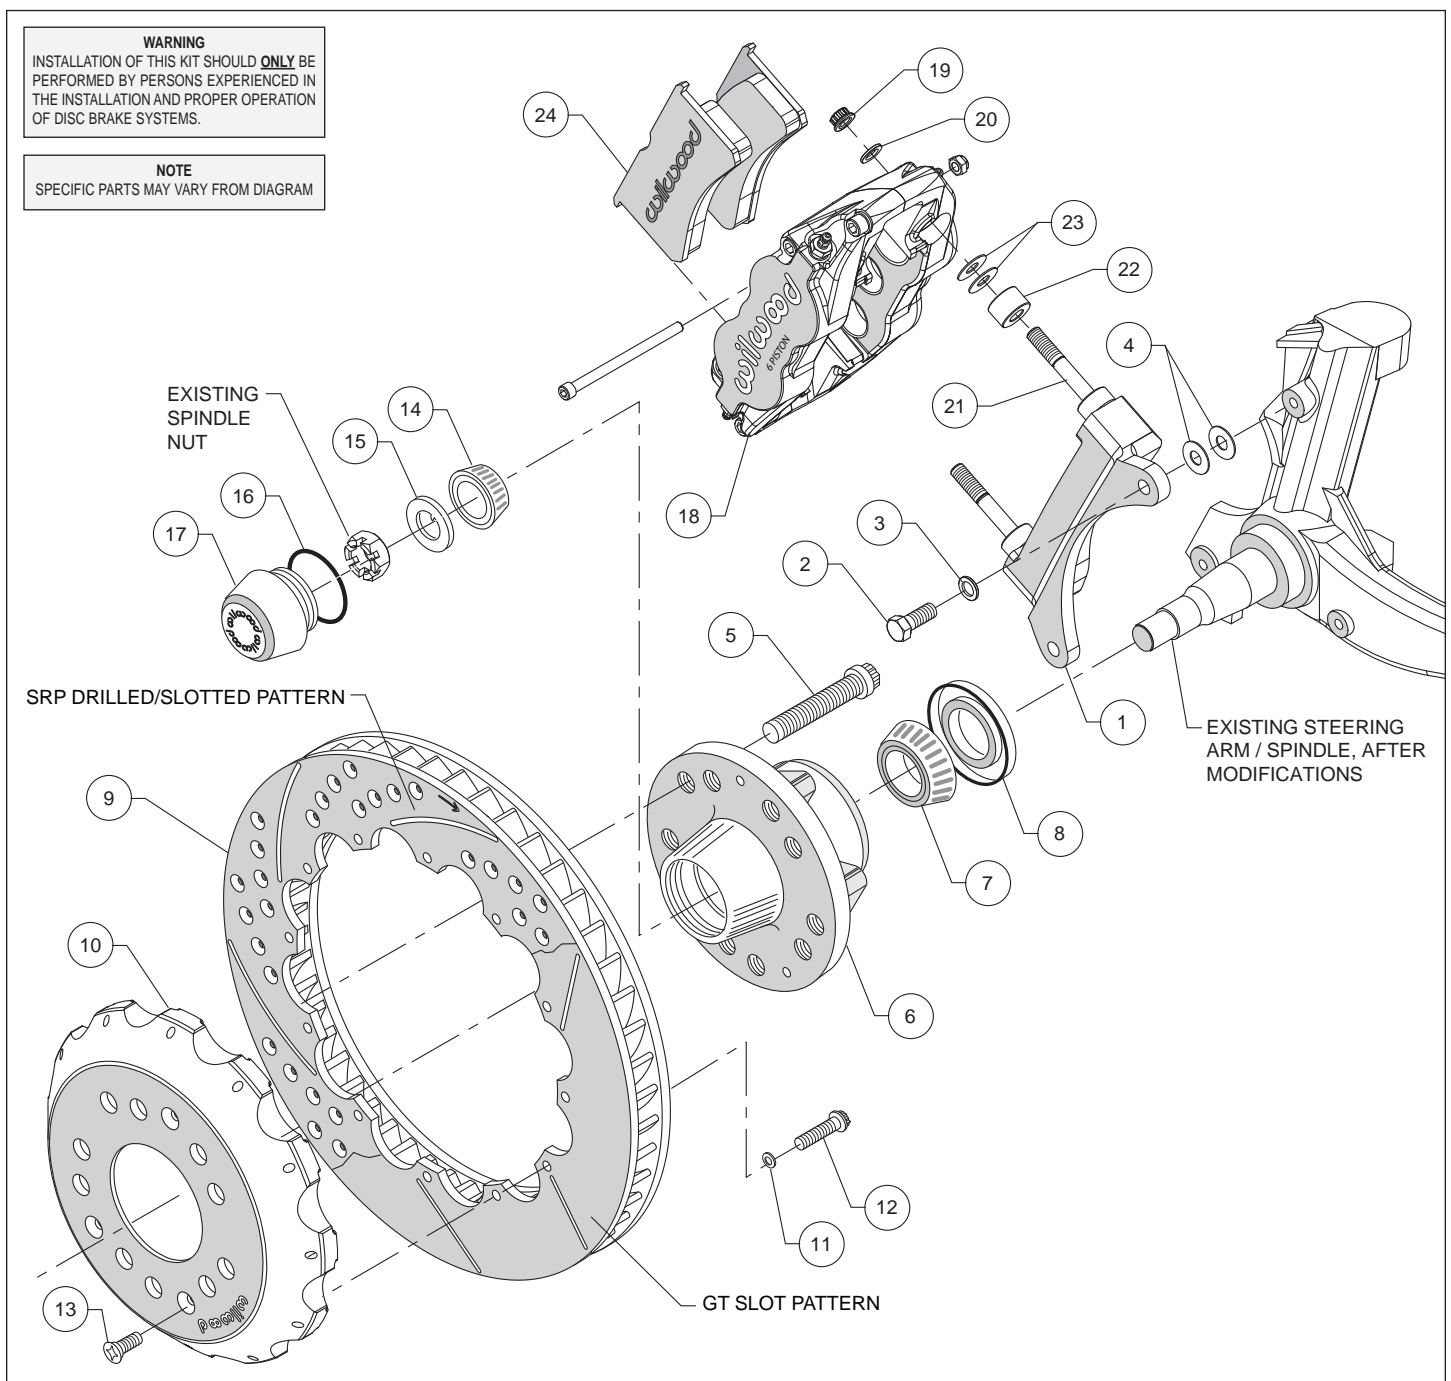
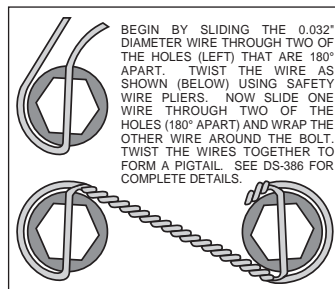

Figure 2. Typical Installation Configuration
Figure 4. Safety Wire Diagram
**Assembly Instructions** (numbers in parenthesis refer to the parts list and Figure 2 on the preceding pages):
- The caliper mount bracket (1) should initially be installed with clean, dry threads on the mounting bolts. Orient the bracket as shown in Figure 2 and Photo 1, and install using bolts (2) and washers (3). Initially place two .035" thick shims (4) on each bolt between the bracket and upright, Figure 2. Temporarily tighten the mounting bolts. **NOTE:** The bracket must fit squarely against the mounting points on the spindle. Inspect for interference from casting irregularities, machining ridges, burrs, etc. Later, after the caliper alignment has been checked, the mount bolts will be secured using red *Loctite*® 271.
- Pack the large inner bearing cone (7) with high temperature disc brake bearing grease (available from your local auto parts store) and install into the backside of the hub (6), Photo 3.
- Install the grease seal (8) by pressing into the backside of the hub (6), flush with the end of the hub, Photo 3.
- Orient the rotor (9) and the hat (10) as shown in Figure 2 and Photo 4. Attach rotor to hat using bolts (12) and washers (11). Using an alternating sequence, apply red *Loctite*® 271 to the threads, and torque to 155 in-lbs. For an added measure of security, the bolts may be safety wired using standard 0.032 inch diameter stainless steel safety wire as shown in Figure 4. Refer to Wilwood's data sheet DS-386 (available at [www.wilwood.com/Pdf/DataSheets/ds386.pdf](http://www.wilwood.com/Pdf/DataSheets/ds386.pdf)) for complete safety wire installation instructions.
- **NOTE:** *This kit contains distinct right and left hand calipers that must be mounted in a specific direction, as described below.* Lubricate the caliper mounting studs (21) with lightweight oil. Initially place two .035" thick shims (23) and one spacer (22) on each stud between the caliper and the bracket, as shown in Figure 2 and Photo 7. Mount the caliper (18) onto the bracket (1) using lock nuts (19) and washers (20), Figure 2. Ensure that the caliper is mounted so the largest pistons are at the rotor exit end of the caliper, in relation to the direction of rotor rotation. Temporarily tighten the lock nuts and view the rotor through the top opening of the caliper. The rotor should be centered in the caliper, Photo 8. If not, adjust by adding or subtracting shims (4) between the bracket and the spindle. Always use the same amount of shims on each of the two mounting bolts. Once the caliper alignment is correct, remove the bracket mounting bolts one at a time, apply red *Loctite*® 271 to the threads, and torque to 40 ft-lb.